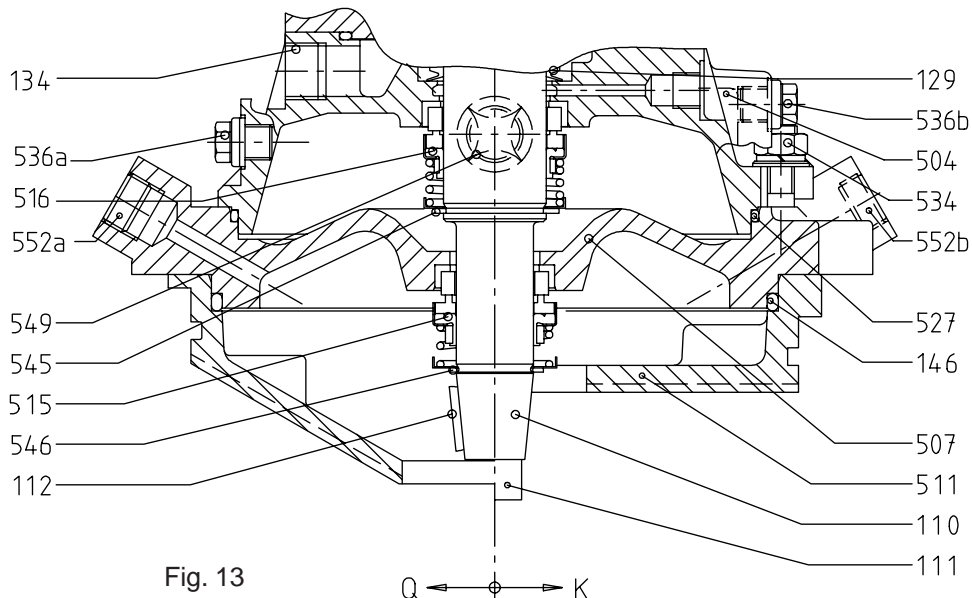

Fig. 13
e) Stationary seat (all types) (Fig. 13)